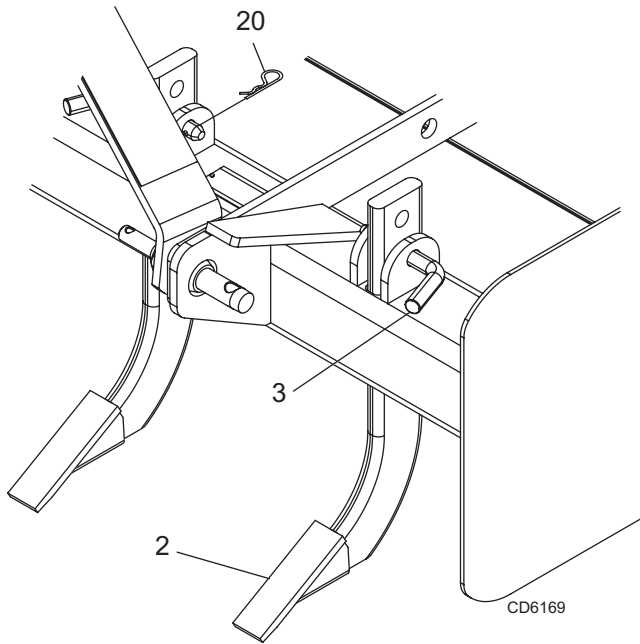

Figure 5. Scarifier Shanks Installed
3. Remove safety pin (20) and lock pin (3). Adjust scarifier (2) to desired position (see Figure 5).